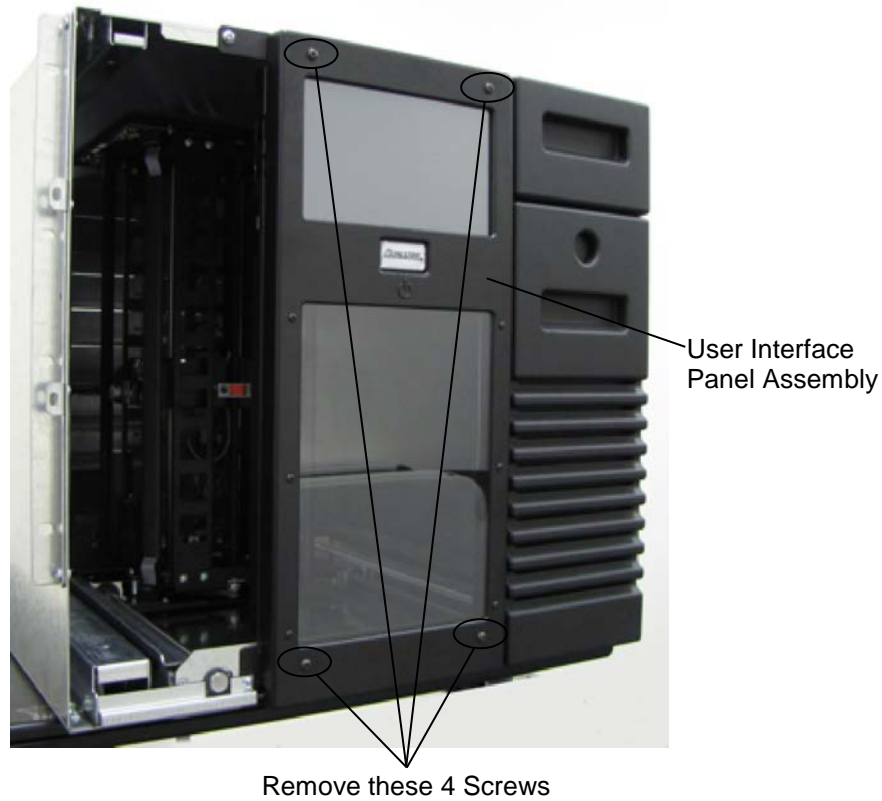

Figure 5-29 Screws shown securing the face of the User Interface Panel Assembly
9. Using a 3/32 Allen wrench remove the four screws shown in Figure 5-29 that secure the user interface panel assembly. Use caution to avoid damaging the touch screen while using the wrench.